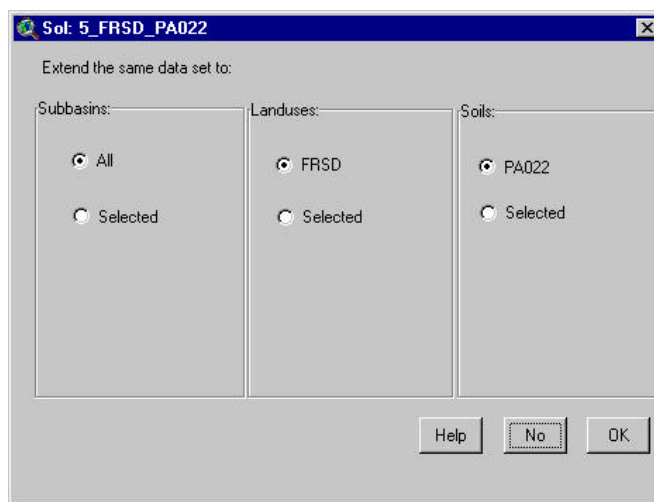

Figure 12.8
4. If the user saves the modified values, once the values are saved for the HRU (by clicking the **OK** button in step 3), a new dialog box will be displayed allowing the user to copy the modifications to other subbasin/land use/soil data sets (Figure 12.8).